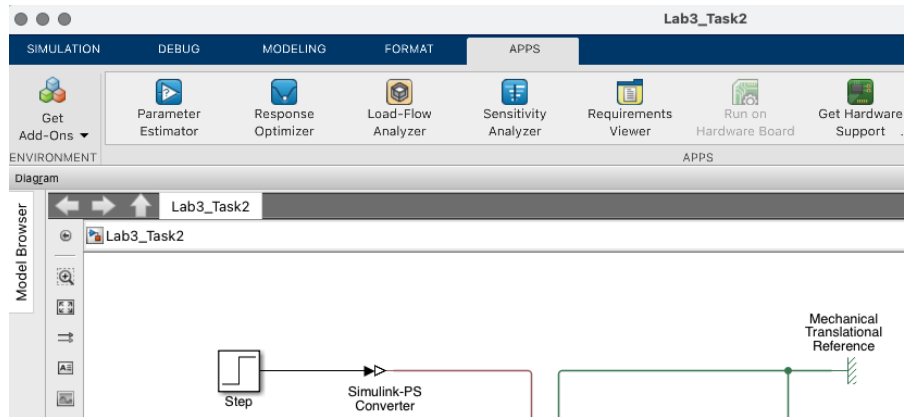

Figure 4: Parameter Estimator App Location
1. To access the Parameter Estimator tool, click on “APPS” tap at the top of the Simulink ribbon. Then click on the “Parameter Estimator” tool icon as shown in figure 4.